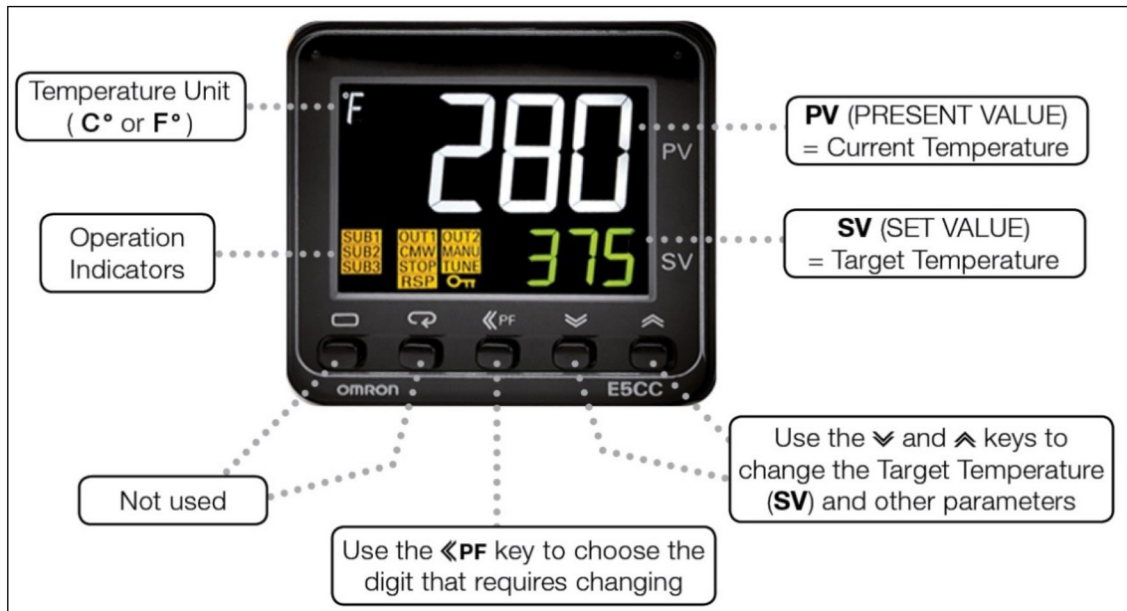

Figure 1.2, Temperature controller
5. Set the 2 **TEMPERATURE CONTROL** to the target frying temperature (See Figure 1.2) (**TEMPERATURE CONTROL** light will turn on when fryer is heating).